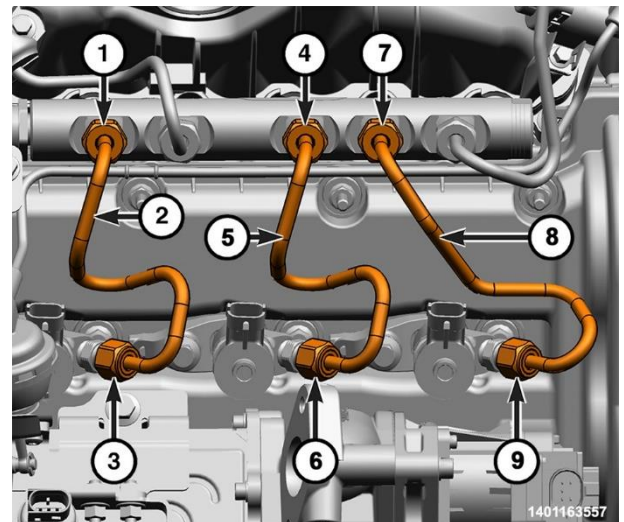

Figure 111 – Right Fuel Injector Tubes
30. Unscrew the union nuts (7 and 9) and remove cylinder No. 1 fuel tube (8) and the discard fuel tube (Figure 111).
31. Unscrew the union nuts (4 and 6) and remove cylinder No. 2 fuel tube (5) and discard the fuel tube (Figure 111).
32. Unscrew the union nuts (1 and 3) and remove cylinder No. 3 fuel tube (2) and discard the fuel tube (Figure 111).